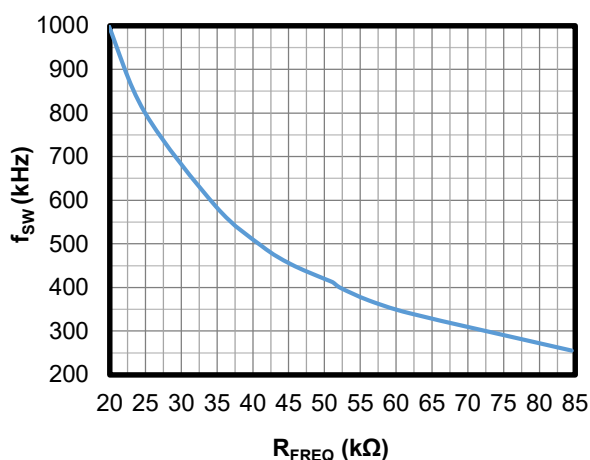

Figure 1: f_{SW} vs. R_{FREQ} (f_{SW} = 200kHz to 1000kHz)
7. To use the enable (EN) function, apply a digital input to the EN pin. Drive EN above 1.02V to turn the regulator on; drive EN below 0.85V to turn it off. If the enable function is not used, EN can be connected directly to VIN.
8. The MPQ4326's switching frequency (f_{SW}) can be configured by R3, which is the FREQ pin's resistor (R_{FREQ}). R3 can be estimated based on the relationship between f_{SW} and R_{FREQ} . Figure 1 show the relationship between f_{SW} and R_{FREQ} when f_{SW} is between 200kHz and 1000kHz.